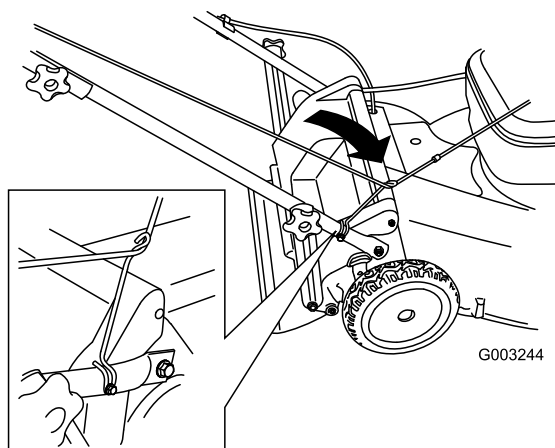

Figure 29
3. Route the starter rope around the lower rope guide (Figure 29).